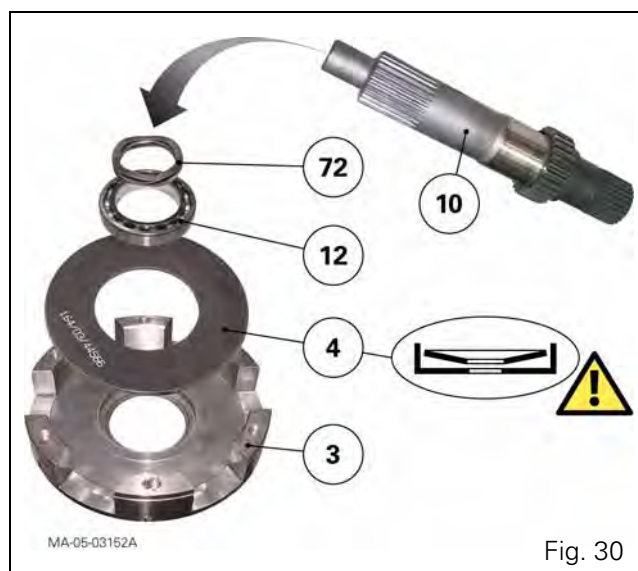

Fig. 30
54. Fit the Belleville washer (4), the ball bearing (12) and the spring washer (72) on the clutch housing (3). Slide on the shaft (10) (Fig. 30).